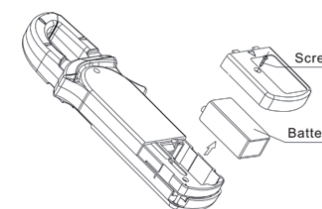

Figure 9
B. Replacing the Battery (See Figure 9)**⚠ Warning**